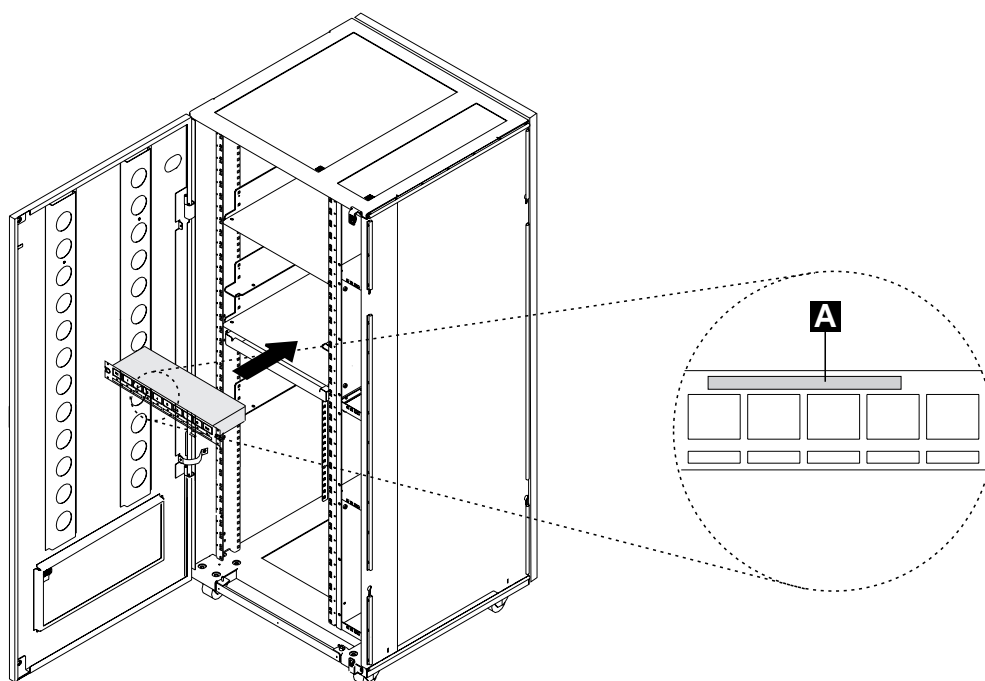

Figure 1-65. Installing the 8228 (Controller Expansion Rear side)
6. ____ Install the 8228 in a safe place near the service processor. If you received a controller expansion, the 8228 is installed on the rear side of the controller expansion using two screws (PN 1621232) and two captive nuts (PN 58G5766) see Figure 1-65. Using label **A** (PN 80G0680), identify the 8228 as Service Processor Access Unit.